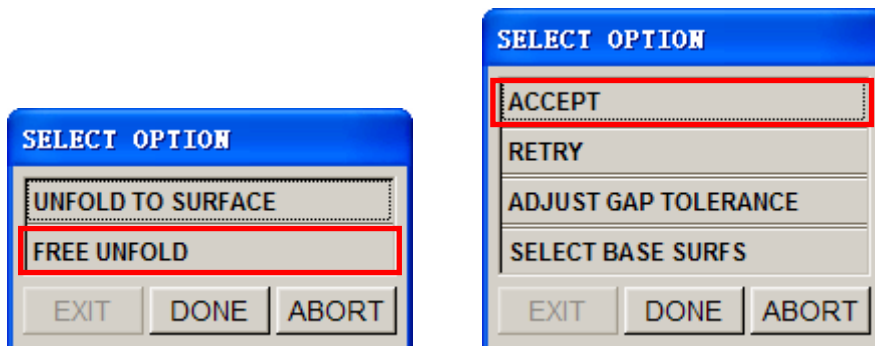

Figure 56 Select Option dialog box
7. The **Select Option** dialog box illustrated in Figure 56 is displayed.